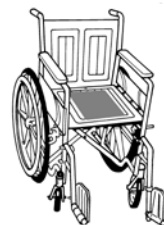

Fig. 31
3. Place sensor pad FLAT across width of seat (fig. 31). Make sure sensor cord is either to the back or side of seat.